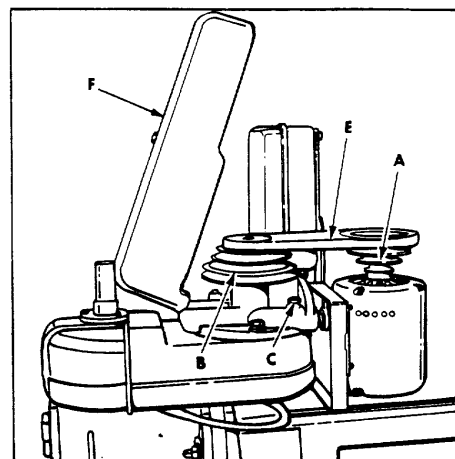

Figure 7
3. When changing the position of the belt on the motor pulley (A) and upper jackshaft pulley (B) fig. 7, raise the belt and pulley guard (F), loosen the two screws (one of which is shown at (C) fig. 7 that attach the motor plate to the jackshaft bracket, and push in the motor plate (D) to release belt tension. Position the belt (E) on the desired steps of the motor and upper jackshaft pulleys and pull out the motor plate until proper belt tension is obtained. Then tighten the two screws (C) fig. 7.